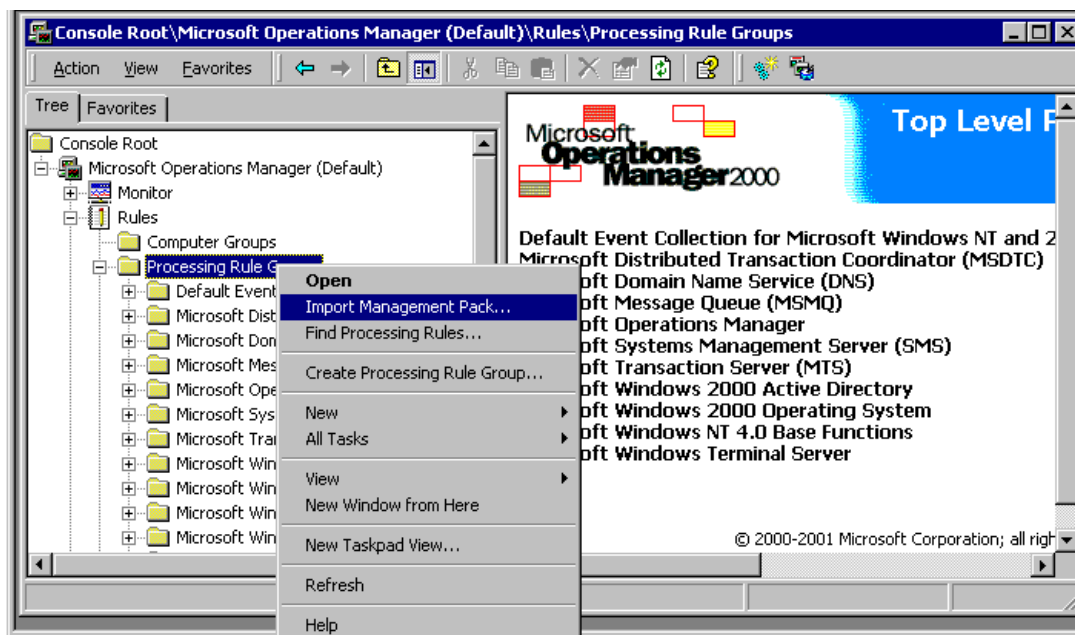

Figure 9-3 MOM Administrator Console with Import Screen
2. Right-click on **Rules, Processing Rule Groups**, and then select **Import Management Pack** (Figure 9-3). The Import Management dialog box appears.